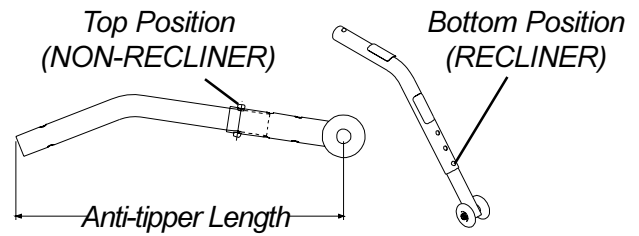

FIGURE 1 - ANTI-TIPPER LENGTH
**Installing The Anti-tippers (FIGURES 1 & 2)**
*NOTE: To ensure the correct model anti-tipper is used refer to FIGURE 1. Measurements for NON-RECLINER anti-tippers are approximate and are taken with extension tube in TOP hole position. Measurements for RECLINER anti-tippers are approximate and are taken with extension tube in BOTTOM hole position.*